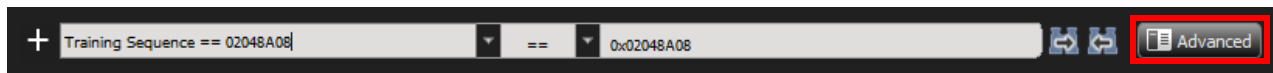

Figure 5.140: Quick Search → Advanced
- a. Click **Find**  in the main toolbar, then click **Advanced** in the Quick Search dialog (Figure 5.140).